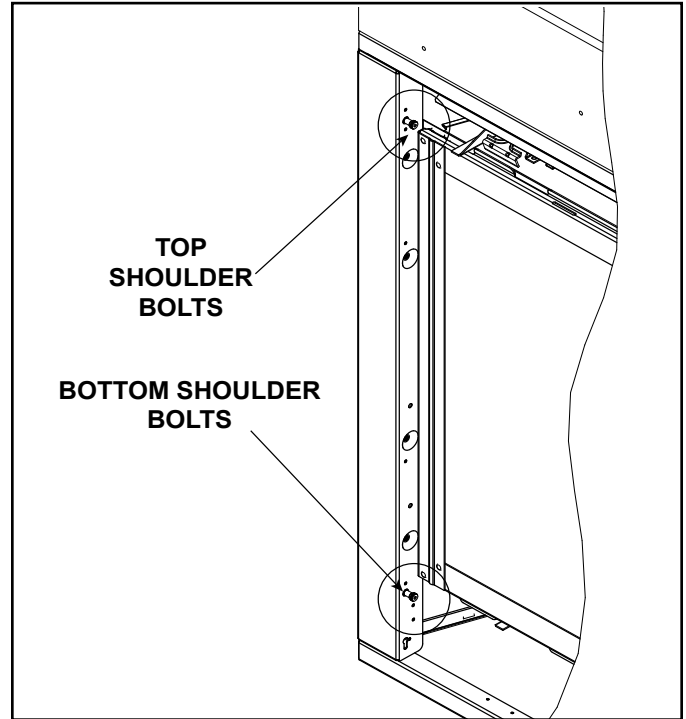

Figure 1. Shoulder Bolt installation
1. Install the shoulder bolts by threading the bolts into the rivnuts. See Figure 1.